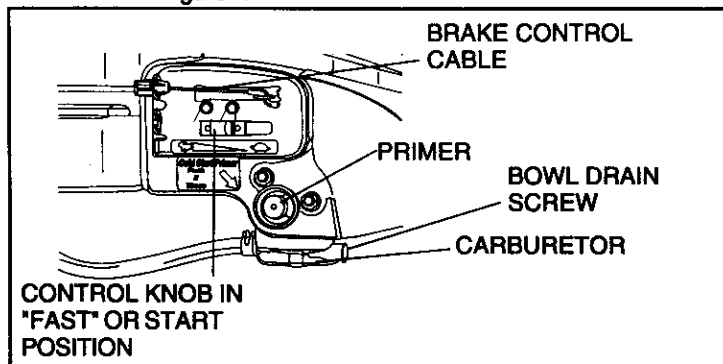

Figure 2
② **INSTALL ENGINE BRAKE CABLE AND STARTER ROPE: BRAKE CABLE (see Figure 2):** Attach engine brake cable to brake mechanism as shown. **STARTER ROPE:**
NOTE: See equipment manufacturer's instructions for control positions which correspond to engine control positions in Figure 2.
① ENGINE WITH PRIMER
- 1) Move control lever (figure 2) to "FAST" or "START" (see equipment manufacturer's instructions).